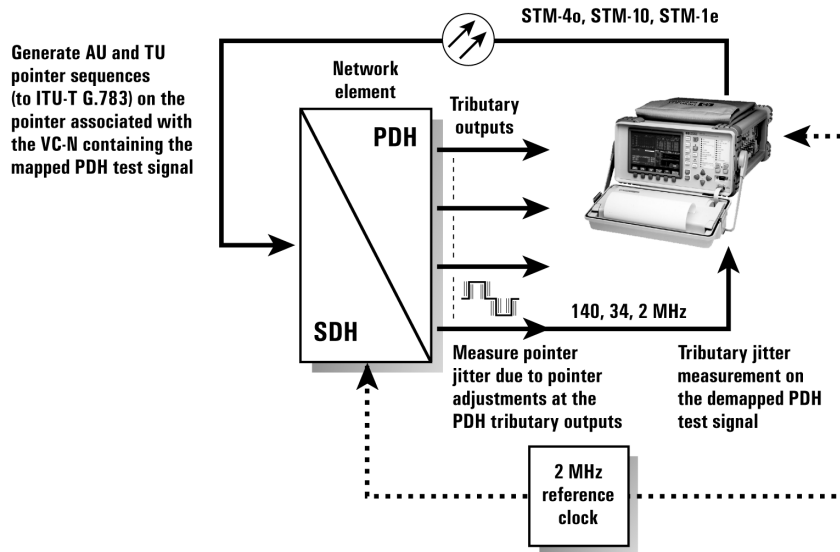

Figure 1 Typical tributary jitter test setup
- 1 Connect the HP OmniBER to the Network Element as shown in Figure 1. Ensure the HP OmniBER and the NE are synchronised.